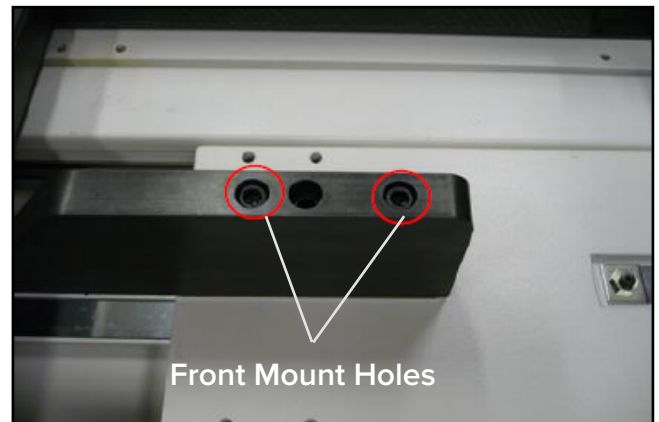
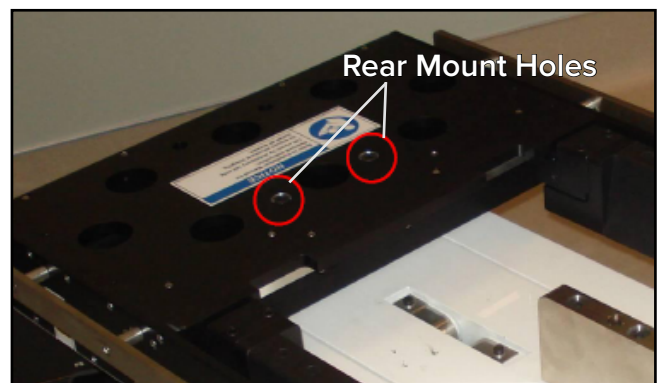

Fig. 39
Fig. 40
- Secure the kVue to the TrueBeam™ pedestal using the (4) M10-1.5 x 120 mm Socket Head Cap Screws provided, installing them into the holes labeled “T” on the couch top as shown in Fig. 39 and Fig. 40. Torque the 4 SHCS to 20–30 ft-lbs (34–40 N-m).